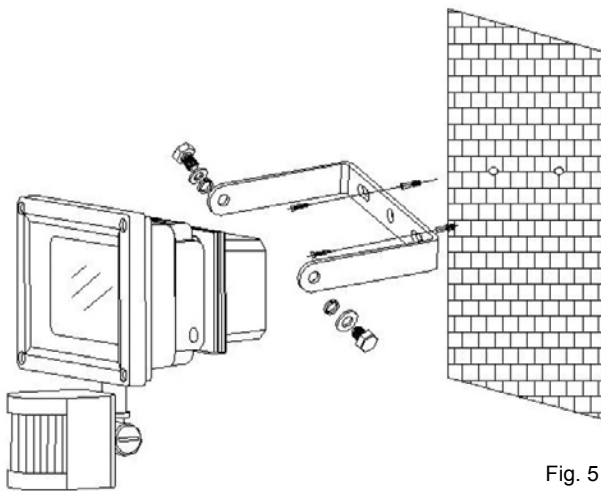

Fig. 5
- (3) Connect the power cords.
- (4) Re-attach the floodlight to the bracket and secure the cable to the wall using suitable clips. Ensure that the cable is not touching the body of the floodlight, and that there is sufficient slack in the cable to allow the floodlight to be tilted and adjusted as required, which should be done by grasping the metal body of the floodlight, not its rear wiring box (fig. 5).